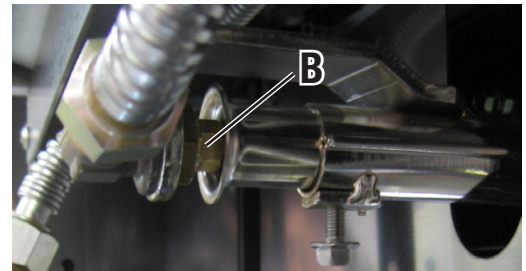
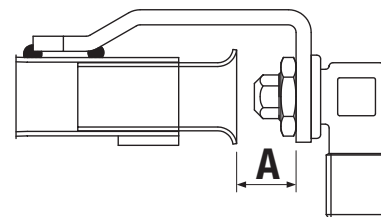

Fig.6.
Fig.7.
3. Unscrew the nozzle 'B' (Fig.6) and replace it with the one for the gas type selected based on the indications of the technical data plate (the nozzles are marked in hundredths of a millimetre)
Unscrew the nozzle "B" (Fig.6) and install the one for the type of gas, checking the "A" (Fig.7) distance for air (see page 9 / 2.1.3).